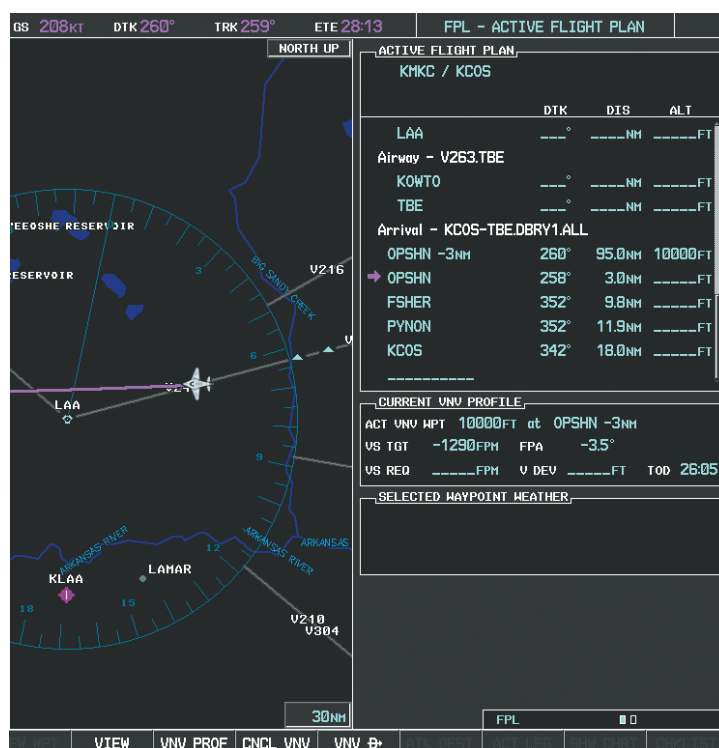

Figure 5-124 Direct-to Active
- h) Press the **ENT** Key twice to activate the direct-to. Note, in Figure 5-124, the magenta arrow indicating the direct-to OPSHN after the offset waypoint for OPSHN. The preceding offset waypoint indicates the offset distance and altitude that were previously entered. The remaining waypoints in the loaded arrival procedure have no database specified altitudes, therefore, dashes are displayed. Keep the CDI centered and maintain a track along the magenta line to OPSHN.